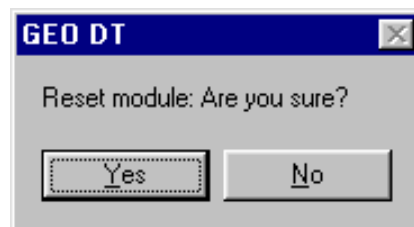

Figure 3-6
2. A confirmation prompt appears (figure 3-6).